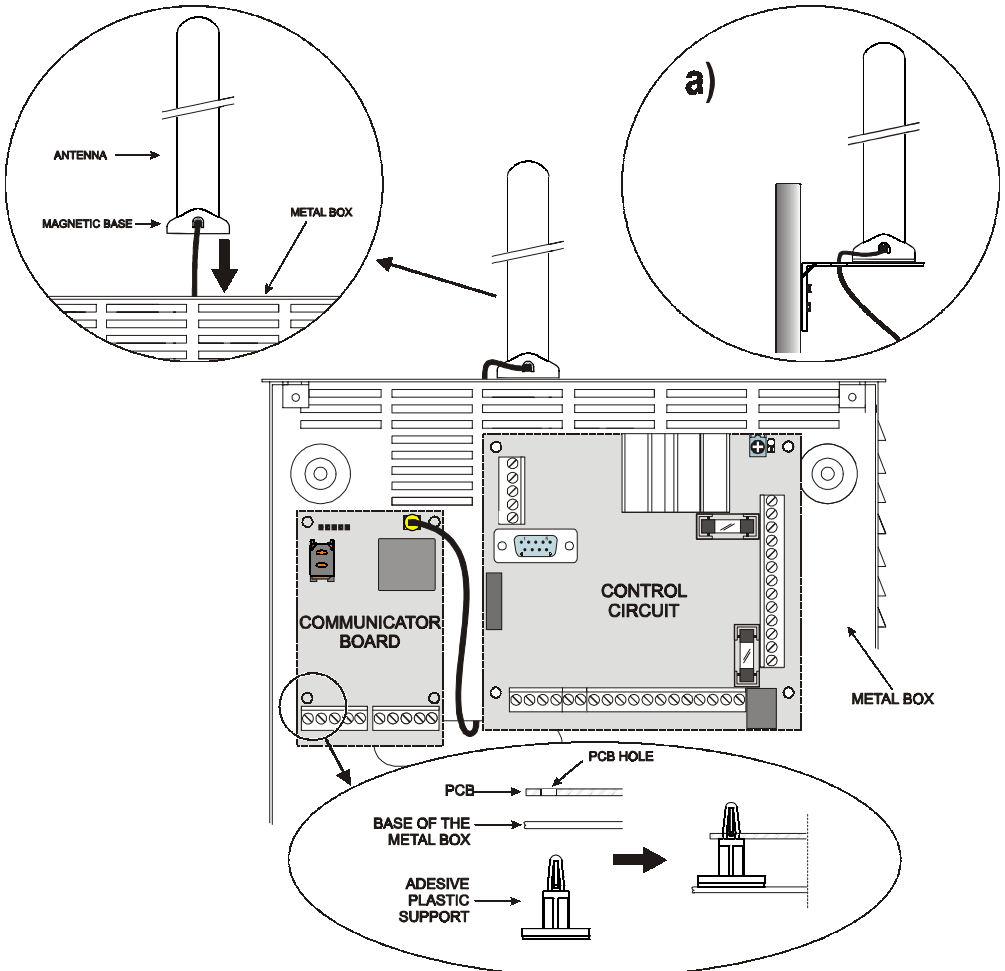

Fig. 2 - Mounting of electronic card inside the control panel.
3. Position the 4 adhesive plastic supports [14] on the base of the metal casing, then fit the holes [7] on the Electronic board into the adhesive plastic supports, as illustrated in Figure 2.
- 4a. Fix the antenna with the 25 cm wire or the antenna with the 2 mt wire [1] above the metal container (Fig.2) in such manner that the magnetic base [2] will be conjoint with the surface. Feed the antenna cable through the cable feed opening in the metal casing.